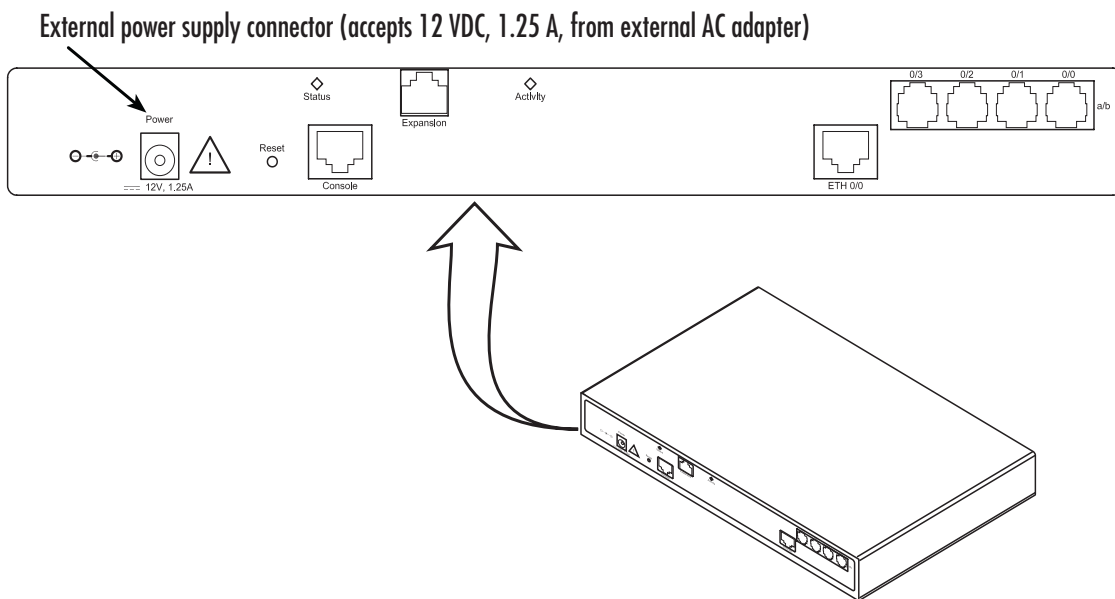

Figure 12. Power connector location on rear panel
1. Insert the barrel type connector end of the AC power cord into the external power supply connector (see Figure 12).